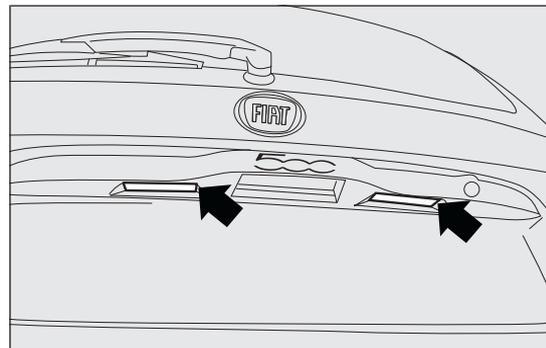

fig. 121
- operate in the point shown by the arrow fig. 121 and remove the lens A;